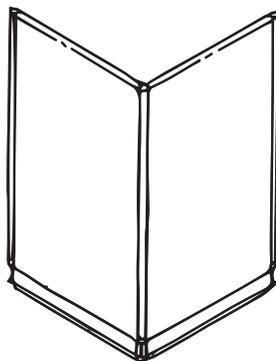

Fig. 3
8. Adjust levelers by workstation or panel grouping. (Fig. 3)